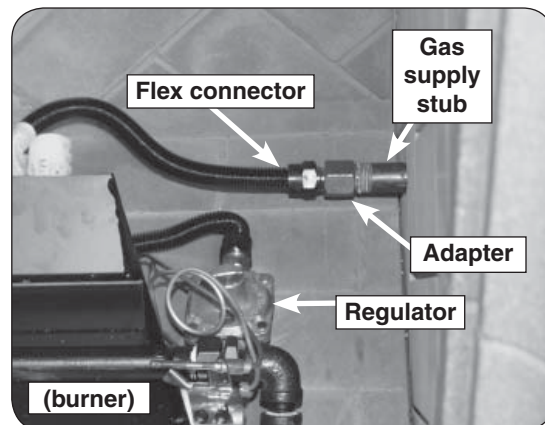

Fig. 14-1 Connect burner to gas supply
2. Locate the gas-supply stub inside the fireplace and remove the cap, if attached (reference Fig. 14-1).
4. **Be sure gas to the fireplace is off.** Remove the adapter connected to the flex connector (pre-installed on the burner system). Attach the adapter to the gas-supply stub using a pipe compound resistant to all gasses. Tighten securely. Then attach the open end of the flex connector to the adapter. Tighten securely (see Fig. 14-1).